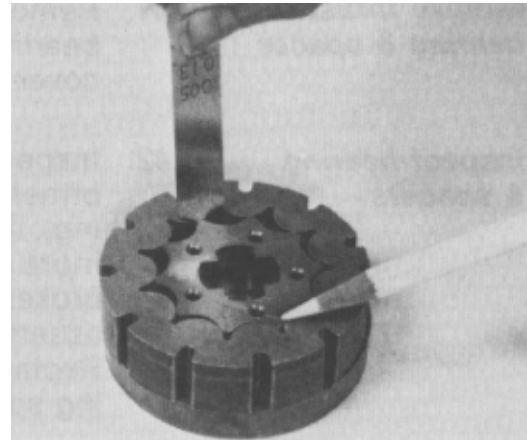

Figure 69
36. Check the rotor lobe “tip” to stator lobe “tip” clearance, with a feeler gauge (Fig. 69). The rotor lobe, directly across from the rotor lobe tip being measured (see pointer in Fig. 69) must be centered between stator lobes during the measurement. A rotor and stator that exceeds the maximum allowable “tip” clearance, must be replaced.